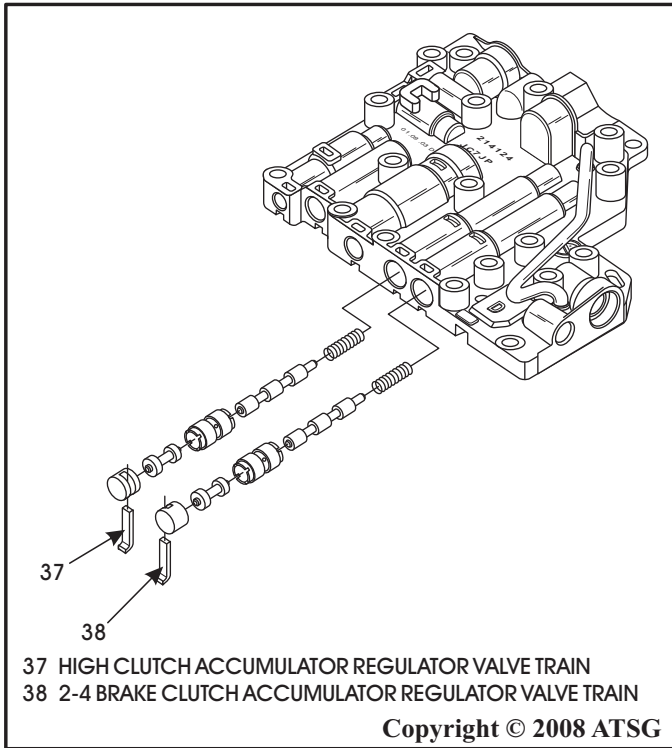
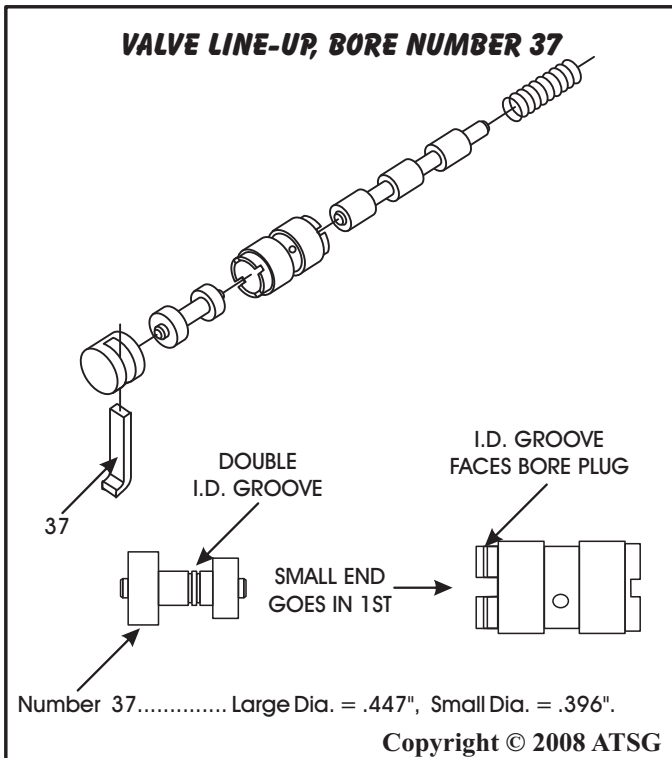

Figure 92
Figure 93
6. Bore numbers 37 and 38, shown in Figure 92, are *almost* identical, when inspecting visually, but the diameter of the valves inside of the sleeves are different. The valve lands are also different diameters on the same valve. Refer to Figure 93 and 94 for the valve diameters and identification grooves.
7. The sleeves both have the same O.D. which means they will not interchange, even though they fit in the bore. The sleeve from bore No. 37 has I.D. groove in the outside diameter of lugs, as shown in Figure 93, and this sleeve along with the proper valve must go in bore number 37, and the same for bore number 38.
9. Refer to Figure 93 and 94, and use extra care when installing the valve trains into bore No. 37 and 38.